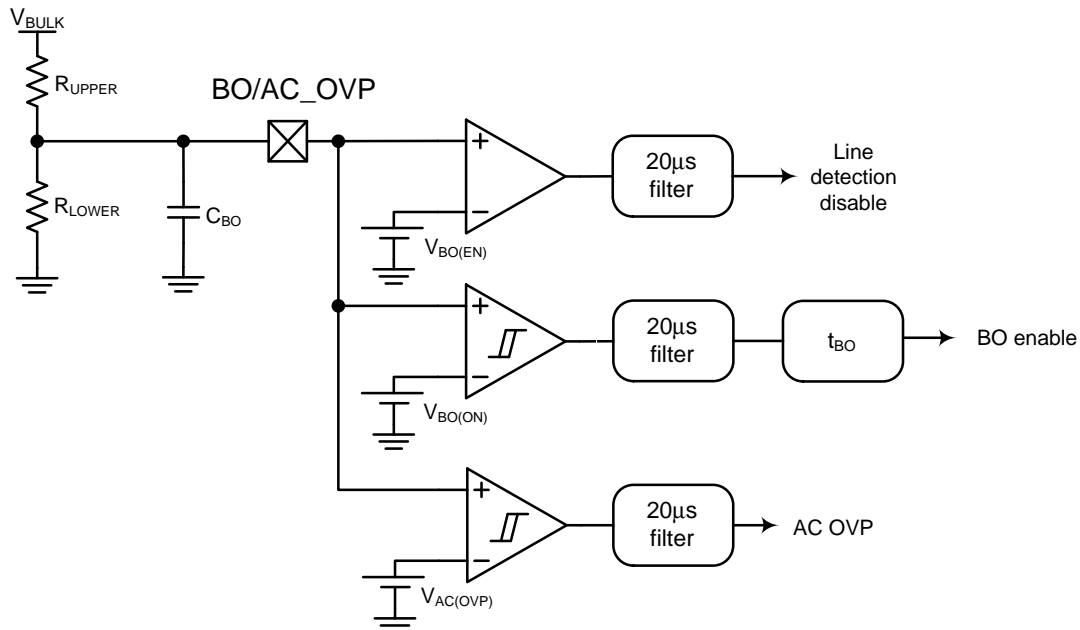

Figure 41. The Internal Brown-out Configuration
The Brown-out circuitry offers a way to protect the application from operation under too low an input voltage. Below a given level, the controller blocks the output pulses, above it, it authorizes them. The internal circuitry, depicted by Figure 41, offers a way to observe the high-voltage (HV) rail.